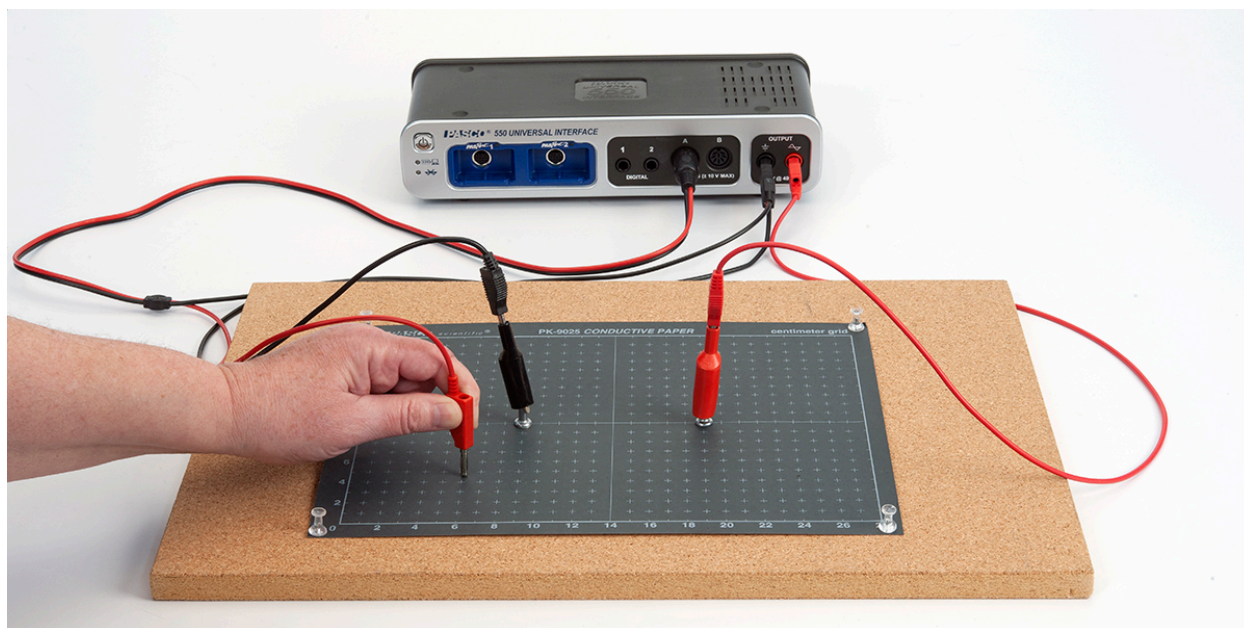

Figure 3: Setup
3. Attach a red patch cord to the red terminal of the 550 output (attach a second red for pattern G). Attach a black patch cord to the black terminal. Attach an alligator clip to the other end of each patch cord and clip each to a silver push pin (see Figure 3). Insert the push pins into the appropriate electrodes on the pattern drawn on the conductive paper. *It is important that you do not bump the electrode push pins during the experiment since doing so may change the voltages on the paper. This is not a disaster since the shapes of the equipotential surfaces will not be affected, but it is frustrating to be tracing a 4.0 V surface that suddenly becomes a 3.0 V surface.*